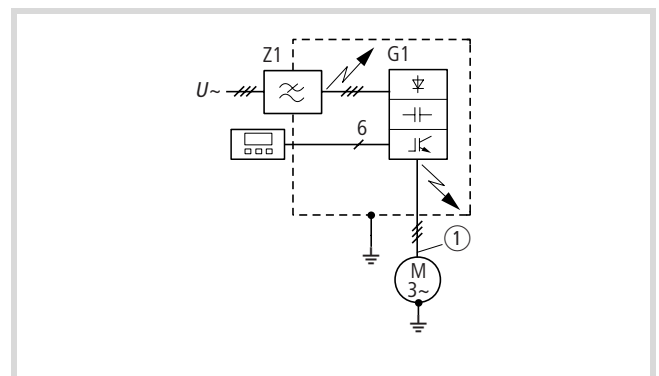

Figure 9: DV6 and radio interference filters in an insulated metal enclosure
① Screened motor cable
- Earth the metallic enclosure using a cable which is as short as possible (→ Fig. 9).